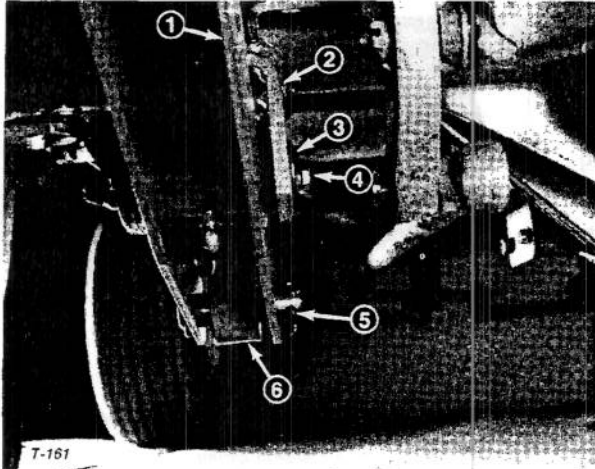

Figure 8
2. Slide frame under traction unit, align frame holes with axle bracket holes, insert pivot pins and secure with capscrews, flatwashers, and lock-washers (Fig. 8).
3. Align frame holes with cylinder rod hole, insert pin and secure with cotter pin (Fig. 8).